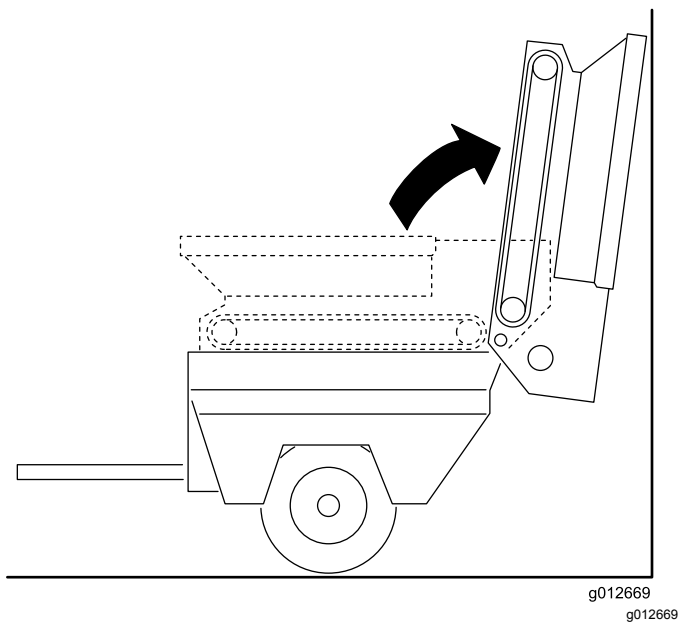

Figure 26
3. Pivot hopper rearward and lean it against wall, post, ladder, etc. (Figure 26)
Make sure that the hopper is pivoted beyond center and/or secured to wall or post to prevent it from accidentally falling on work area (Figure 26).
3. Carefully rotate the hopper down onto the slider-frame rails; refer to Figure 26 of Disassembling the Slider Bed \(page 24\)